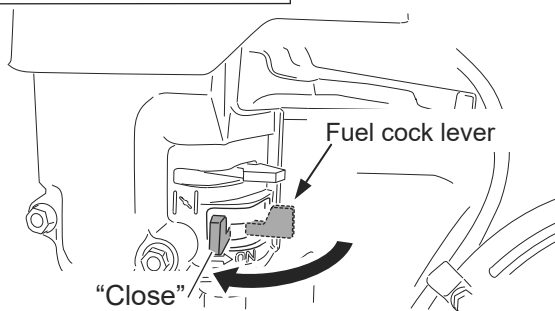

Fig.25
- 3 Shut the fuel cock. (Fig. 25)